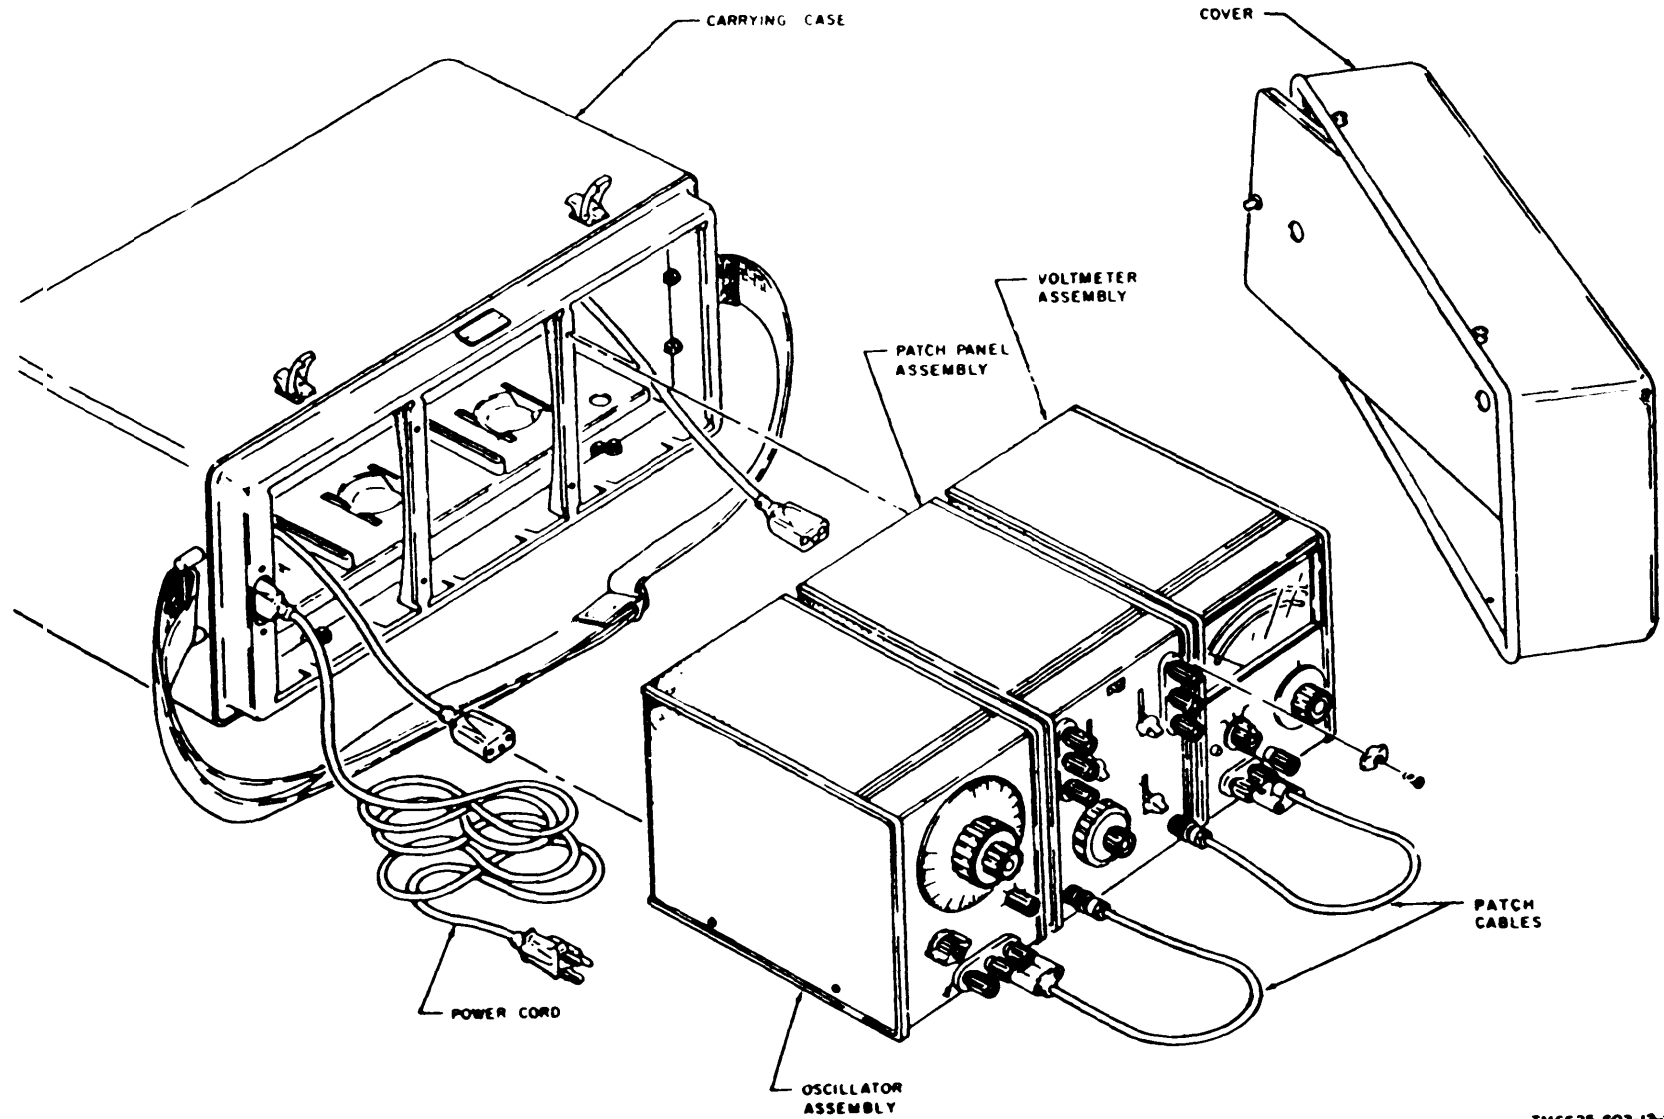

Figure 2. Test Set, Telephone AN/USM-181 (assembly diagram).
b. The oscillator, patch panel, and voltmeter are assembled in a carrying case (fig. 2). Power for the oscillator and voltmeter is supplied by rechargeable batteries contained in each assembly. When the test set is connected to an ac source (115 or 230 volts ac), the power supplies in the oscillator and in the voltmeter (FUNCTION switch set to ON) supplies operating power and recharges the batteries.
The minor component of the test set are shown in figure 2 and consist of a detachable ac power cord and two patch cables for attaching the voltmeter and oscillator to the patch panel. The patch cables are terminated on one end by a BNC-type connector, and on the other end by a banana plug with 3/4-inch centers. The cables and power cord are stored in the cover of the instrument for transit, storage, or shipment.